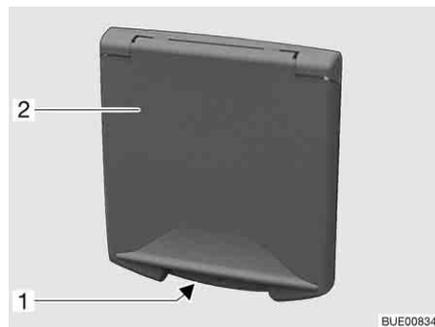

Fig. 48 Push-button lock service flap
- Insert the key into locking cylinder of the lockable push-button lock (Fig. 48,1) and turn a quarter turn. The push-button lock is unlatched.
- Insert the key into locking cylinder of the lockable push-button lock (Fig. 48,1) and turn a quarter turn. The push-button lock is locked.